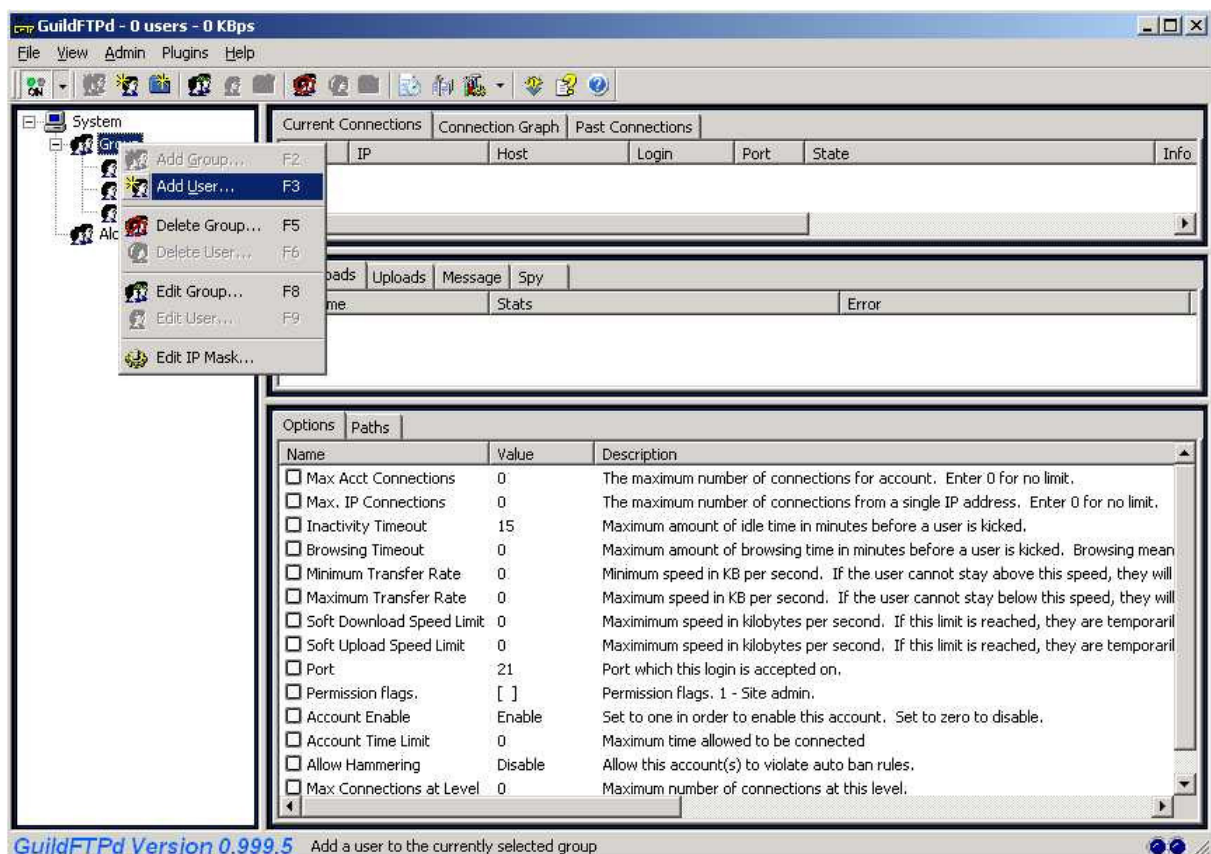

Figure 34. Creating a FTP user account
2. Under the **System** → **Group**, create a user account, for example “*ftpuser*”, as shown in Figure 34.